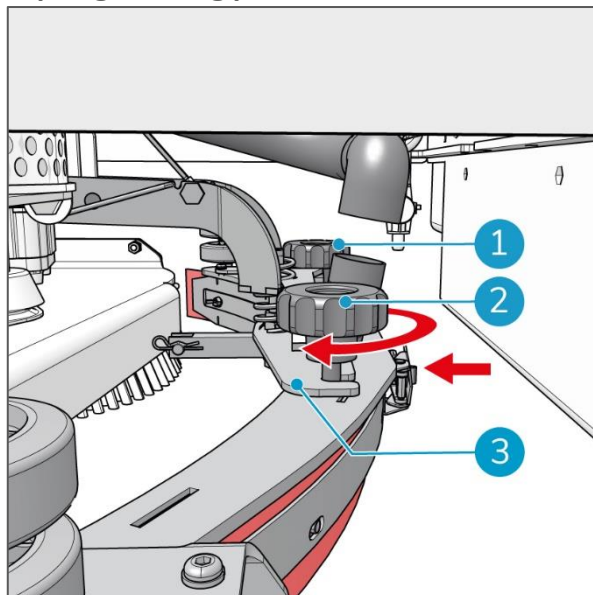

Figure 41
3. Slide the rotary knob of the squeegee body, the furthest away from you (Figure 41, pos 1), into the cutout of the squeegee lifting plate (Figure 41, pos 3). Make sure to push it fully into the cutout.
4. Tighten the rotary knob hand tight (Figure 41, pos 1).
5. Repeat for the rotary knob closest to you (Figure 41, pos 2).